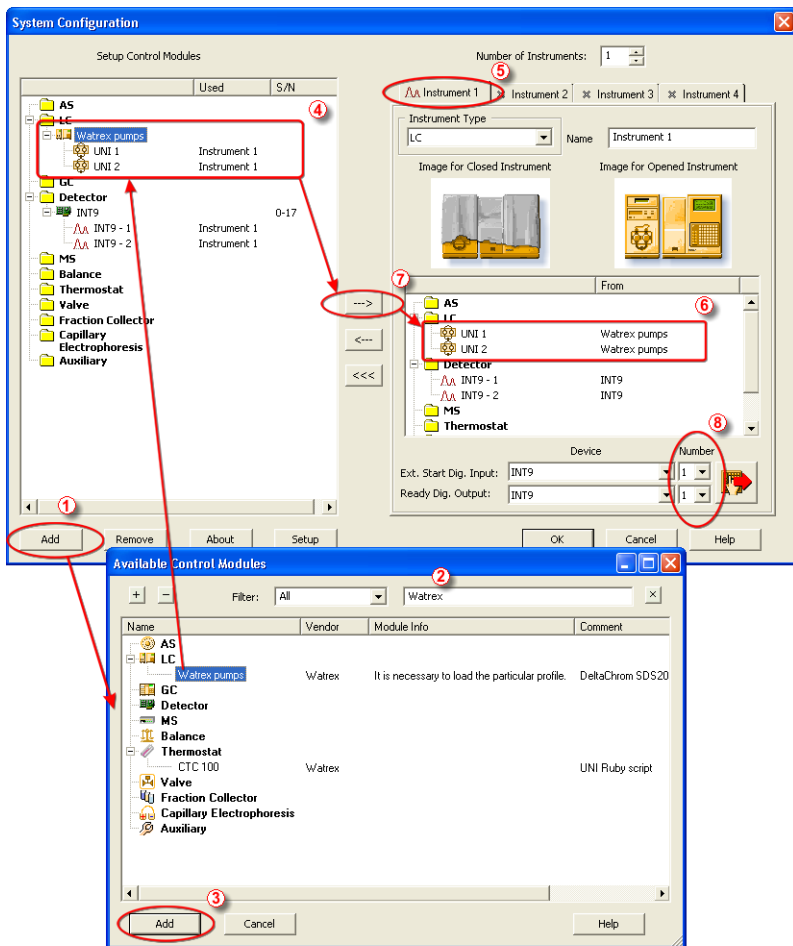

Fig 2: How to add **Watrex pumps**
- Press the **Add** button ① (see Fig 2 on pg 6.) to invoke the **Available Control Modules** dialog.
- You can specify the searching filter ② to simplify the finding of the driver.
- Select the **Watrex pumps** item and press the **Add** ③ button.